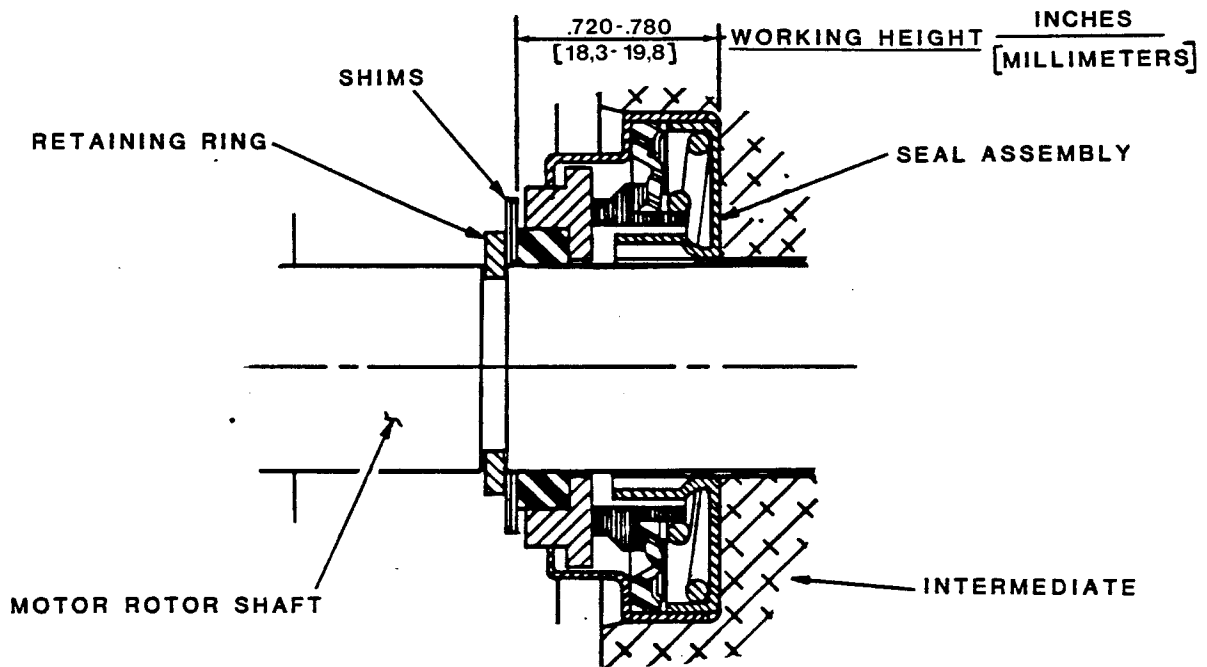

Figure 4. Inner Seal Assembly 25276-031
Select the required combination of shims (37) to obtain a seal working height of 0.720 to 0.780 inches as shown in Figure 4. This distance is measured from the bottom of the bore in motor housing (2) to the motor side of shims (37) when the retaining ring (38) is installed.